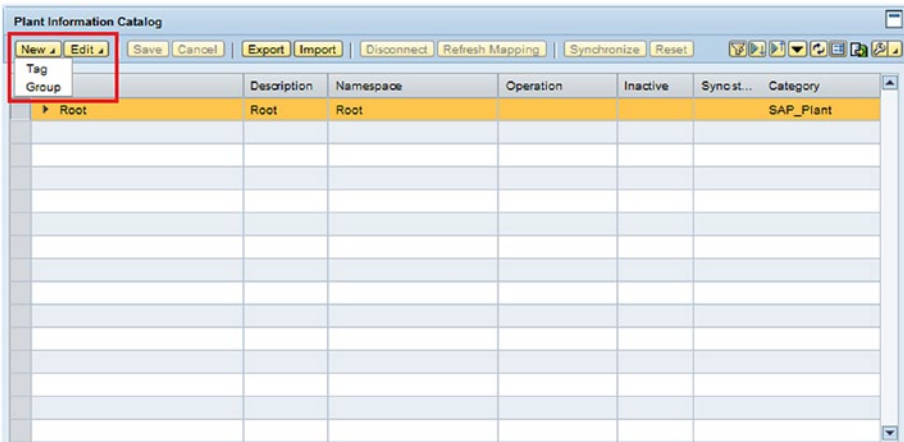

Figure 7-120. Selecting a new PIC
- *New*: The options of creating a group or tag are available here (see Figure 7-120). Upon selecting the desired option, it will ask you for the Name, Description, and Category in a popup window. when you click OK, it will create the object under the selected node. *A new group or tag can be created under any group, but objects cannot be created under any tag.*